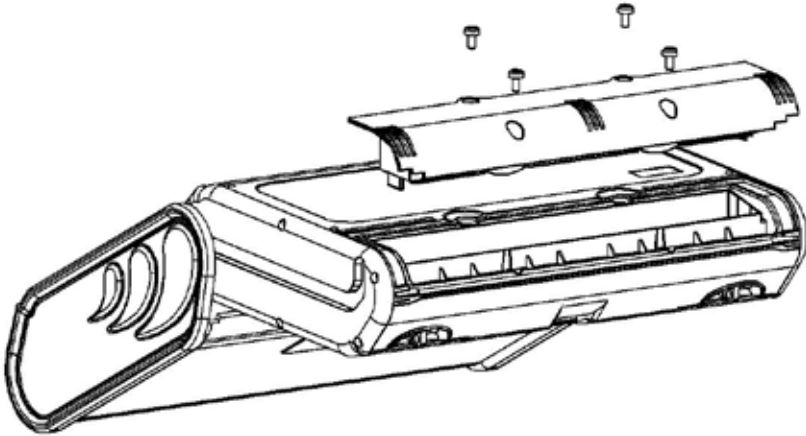

Fig. 7.1. Replacing the battery pack
- remove the four screws of the battery compartment (in the lower part of the casing), **Fig. 7.1**,